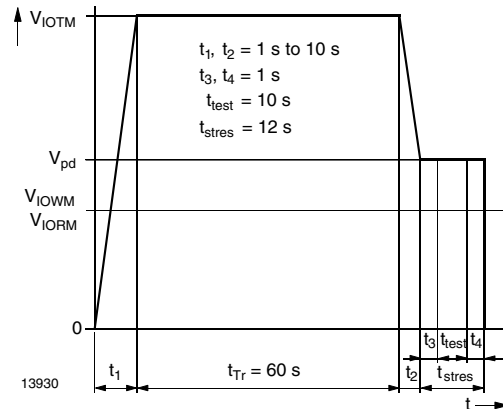

Fig. 2 - Test Pulse Diagram for Sample Test According to DIN EN 60747-5-2 (VDE 0884); IEC 60747-5-5
- According to DIN EN 60747-5-5 (VDE 0884) (see figure 2). This optocoupler is suitable for safe electrical isolation only within the safety ratings. Compliance with the safety ratings shall be ensured by means of suitable protective circuits.